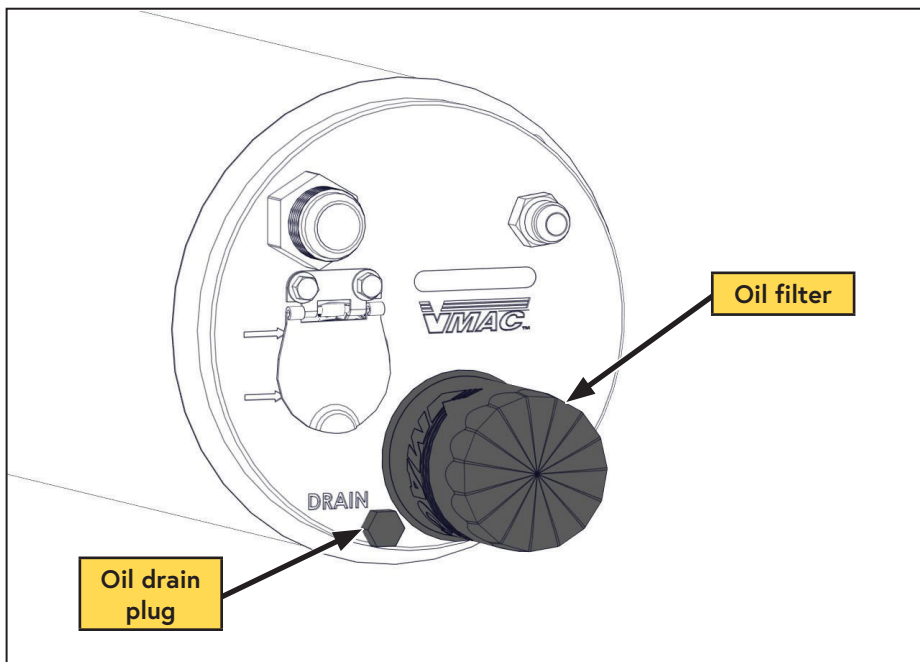

Figure 47 — Compressor oil filter
- ☐ Remove the oil drain plug and drain the oil into a container with a capacity of at least 9 L (2.38 USG) (Figure 47).
- ☐ Remove the oil filter (Figure 47).